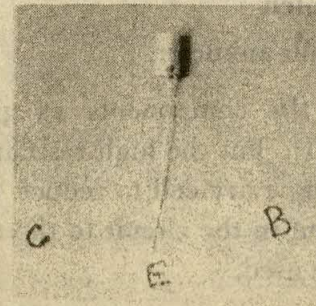

FIG. 3.6.1
2. Ask the students to observe the transistor. Tell them the names of the three leads (Emitter, base and collector). Always check the base diagrams for the correct position of these leads before switching on the power. Tell the students that some transistors have four leads also but the fourth lead is connected to the case for grounding. Fig. 3.6.1.